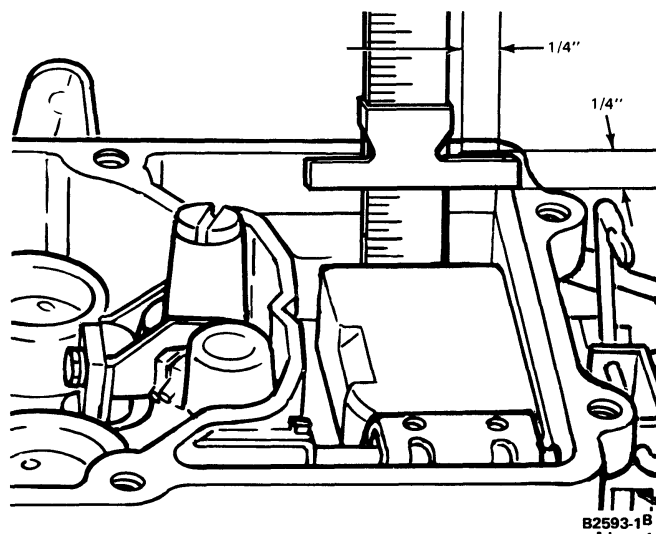

FIG. 24 Fuel Level (Float) Adjustment—Wet
4. While the engine is idling, use a standard depth scale to measure the vertical distance from the top machined surface of the carburetor main body to the level of the fuel in the fuel bowl (Fig. 24). The measurement must be made at least 6.4mm (1/4 inch) away from any vertical surface to assure an accurate reading, because the surface of the fuel is concave (higher at the edges than in the center). Refer to the specifications for the correct fuel level (wet) setting.